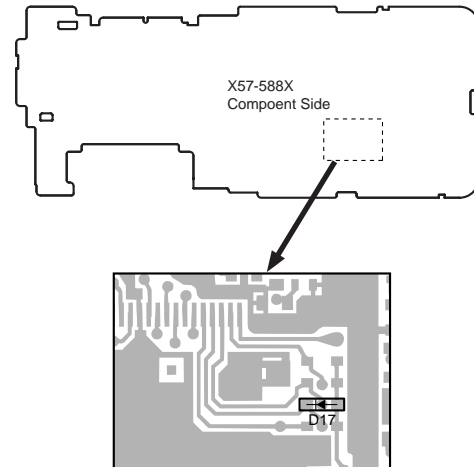

Fig. 3
Remove D17 from the TX-RX unit (Figure 3) (E, (N)E models only). Hold down the [Side1]+[●] switches and turn the power switch on.